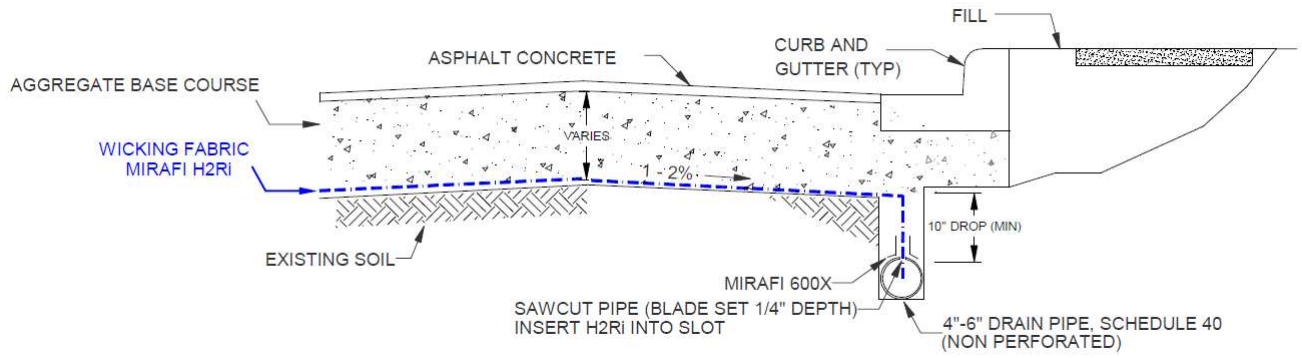
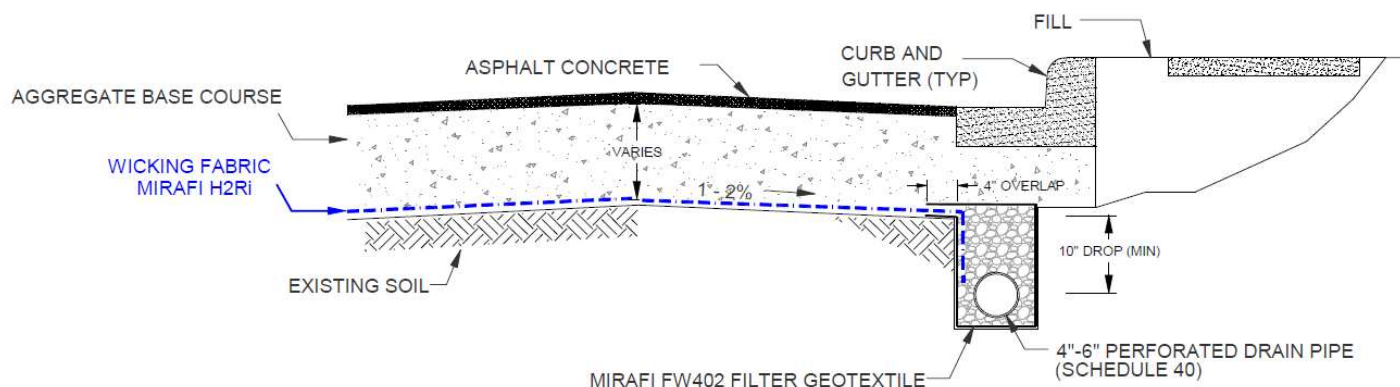

Figure 7a: Piping Detail
Figure 7b: Alternate Piping Detail
5. Piping – This approach should be used for designs with existing curb and gutter, or where the shoulder elevation is flat, piping is required to daylight water. In this approach the H2Ri is terminated into either a traditional trench drain with a perforated pipe (Figure 7b) or into a non-perforated, saw-cut pipe (Figure 7a). A minimum 4” (100 mm) diameter HDPE drain pipe is recommended for use in these applications. A vertical drop of 10” (250 mm) between the elevation of the geotextile and the top of pipe is recommended to initiate a siphon effect in the wicking channels, as shown in Figure 7a and 7b and Image 12. This amount of vertical gradient inhibits inward wicking back into the cross section, as the estimated maximum uphill wicking capability of H2Ri is approximately 8” (200 mm). When using a sawcut pipe, the Mirafi® H2Ri should be inserted into slot at the top of the pipe. Mirafi® 600X separation geotextile may be used to cover the sawcut interface, to shield soil from entering the pipe, as shown in Figure 7a.